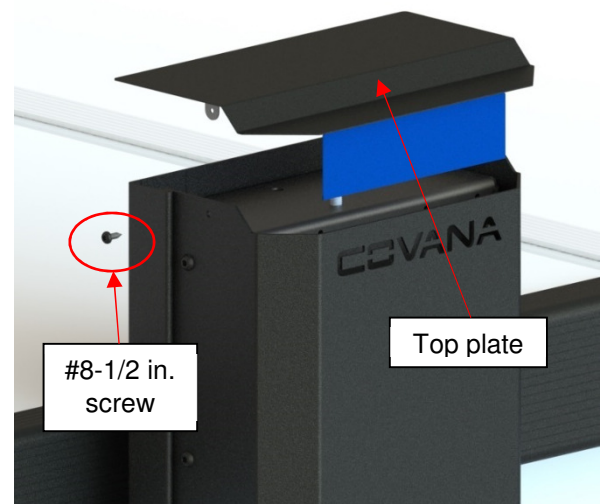

Figure 91
- 29) For both posts, slide the all-weather seals down. Ensure they are properly seated on the outer sleeves' base. Push down on the seal as shown. (Figure 91)